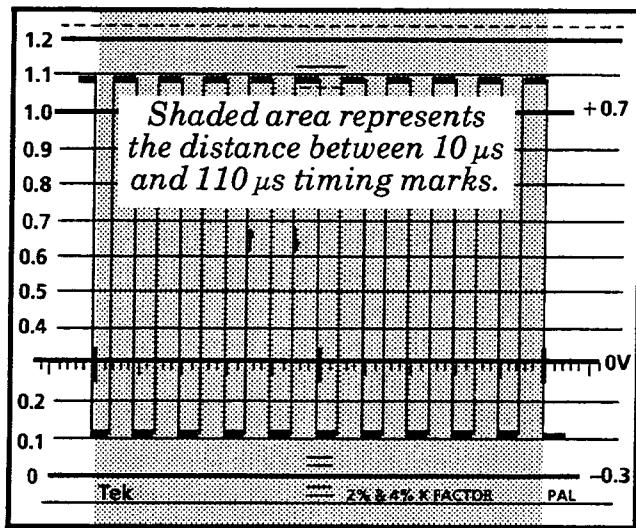

Fig. 5-4. 10 full cycles of calibrator signal between timing marks.
- Use the HORIZONTAL position control to place the first falling calibrator transition on the 10  $\mu$ s graticule mark (the timing mark on the left side of the graticule that goes completely through the blanking line). See Fig. 5-4.